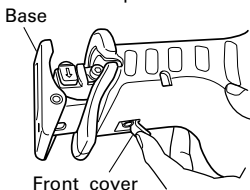

Fig. 11
- (1) Lift the front cover up as illustrated in **Fig. 11**.